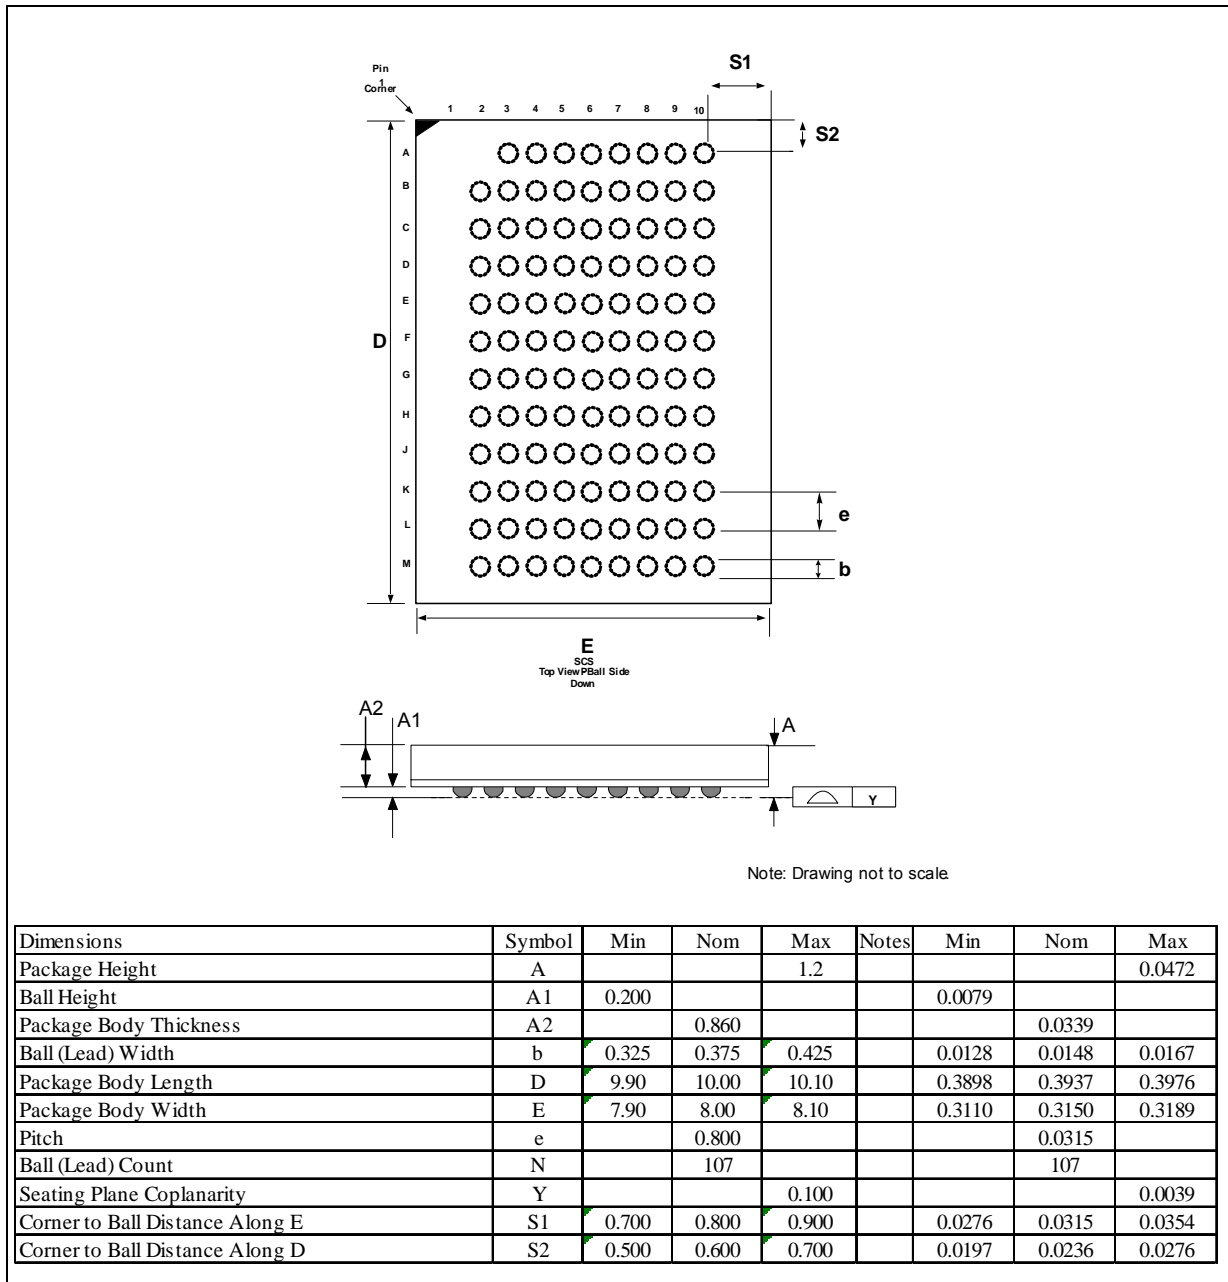

Figure 7. Mechanical Specifications for x16C (107-ball) package (8x11x1.2 mm)
- Figure 7, "Mechanical Specifications for x16C (107-ball) package (8x11x1.2 mm)" on page 21